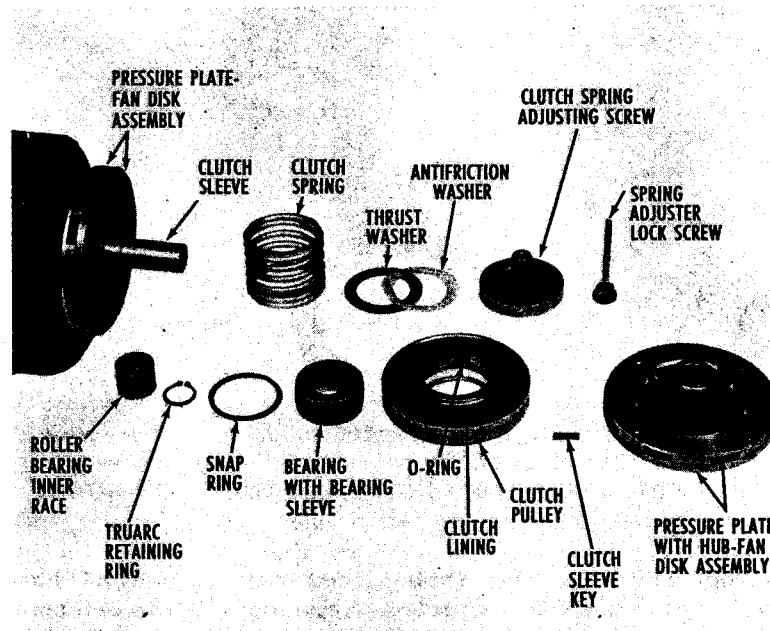

FIG. 3 CLUTCH PARTS DISASSEMBLED
- Fig. 3. Clutch Parts Disassembled.
- 9.1.8 Remove the "O" ring (16) from inside the pulley. A disassembled clutch is shown in Figure 3.